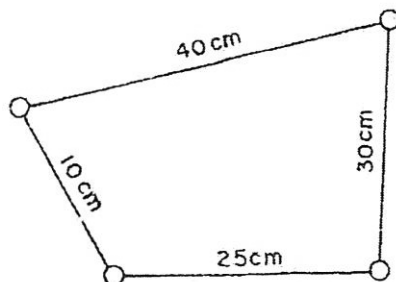

Fig. Q. 11 (a) (i)
11. a) i) The link lengths of a quadratic cycle chain are shown in Fig. Q. 11 (a) (i). Find all the inversions of the given chain and classify them. (8)